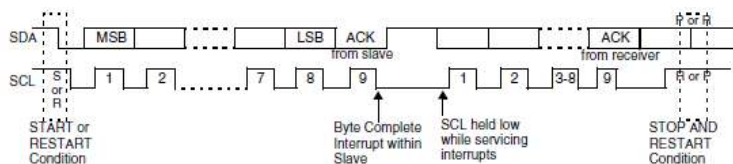

Figure 20: Data Transfer on the I2C Bus
If the master (master-transmitter) is writing to the slave (slave-receiver), the receiver gets one byte of data. This transaction continues until the master terminates the transmission with a STOP condition. If the master is reading from a slave (master-receiver), the slave transmits (slave-transmitter) a byte of data to the master, and the master then acknowledges the transaction with the ACK pulse. This transaction continues until the master terminates the transmission by not acknowledging (NACK) the transaction after the last byte is received, and then the master issues a STOP condition or addresses another slave after issuing a RESTART condition. This behavior is illustrated in Figure 20.
**Note 5:** The signal transitions for the START/STOP conditions, as depicted in Figure 20, reflect those observed at the output signals of the Master driving the I2C bus. Care should be taken when observing the SDA/SCL signals at the input signals of the Slave(s), because unequal line delays may result in an incorrect SDA/SCL timing relationship.